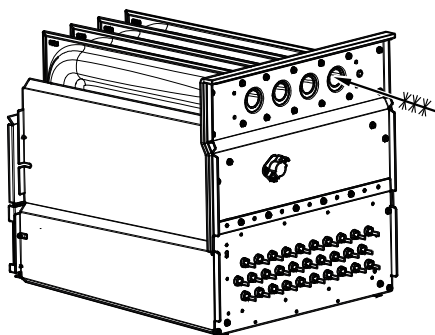

Fig. 71 – Cleaning Heat Exchanger Cell
8. Clean heat exchanger openings with vacuum and soft brush. See Fig. 71.